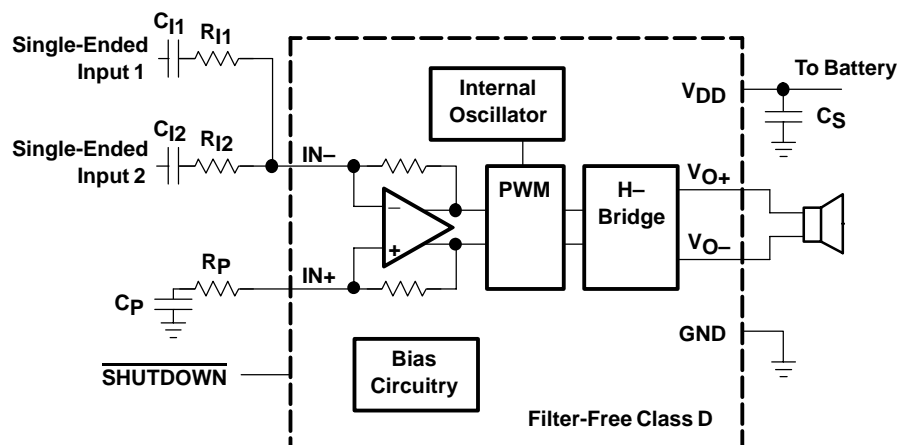

Figure 31. Application Schematic With TPA2005D1 Summing Two Single-Ended Inputs
Four resistors and three capacitors are needed for summing single-ended input signals. The gain and corner frequencies (fc_1 and fc_2) for each input source can be set independently (see equations (9) through (12), and Figure 31). Resistor, R_P , and capacitor, C_P , are needed on the $IN+$ terminal to match the impedance on the $IN-$ terminal. The single-ended inputs must be driven by low impedance sources even if one of the inputs is not outputting an ac signal.